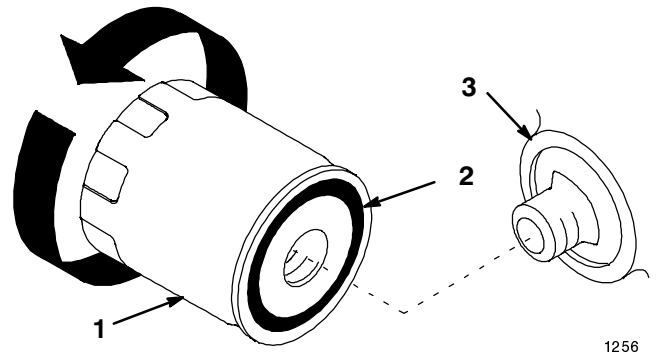

Figure 48
1. Remove the transaxle filter (Fig. 48).
2. Wipe the filter adapter gasket surface (Fig. 48).
3. Apply a thin coat of new oil to the rubber gasket on the replacement filter (Fig. 48).
4. Install the replacement transaxle filter to the filter adapter. Turn the filter clockwise until the rubber gasket contacts the filter adapter, then tighten the filter an additional 3/4 turn (Fig. 48).